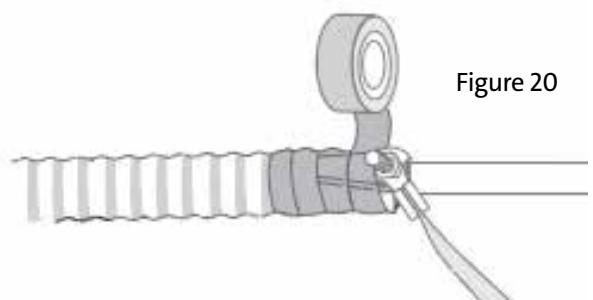

Figure 20
- Cover the grounding clamp and split portion of the sheath with vinyl tape (Figure 20).